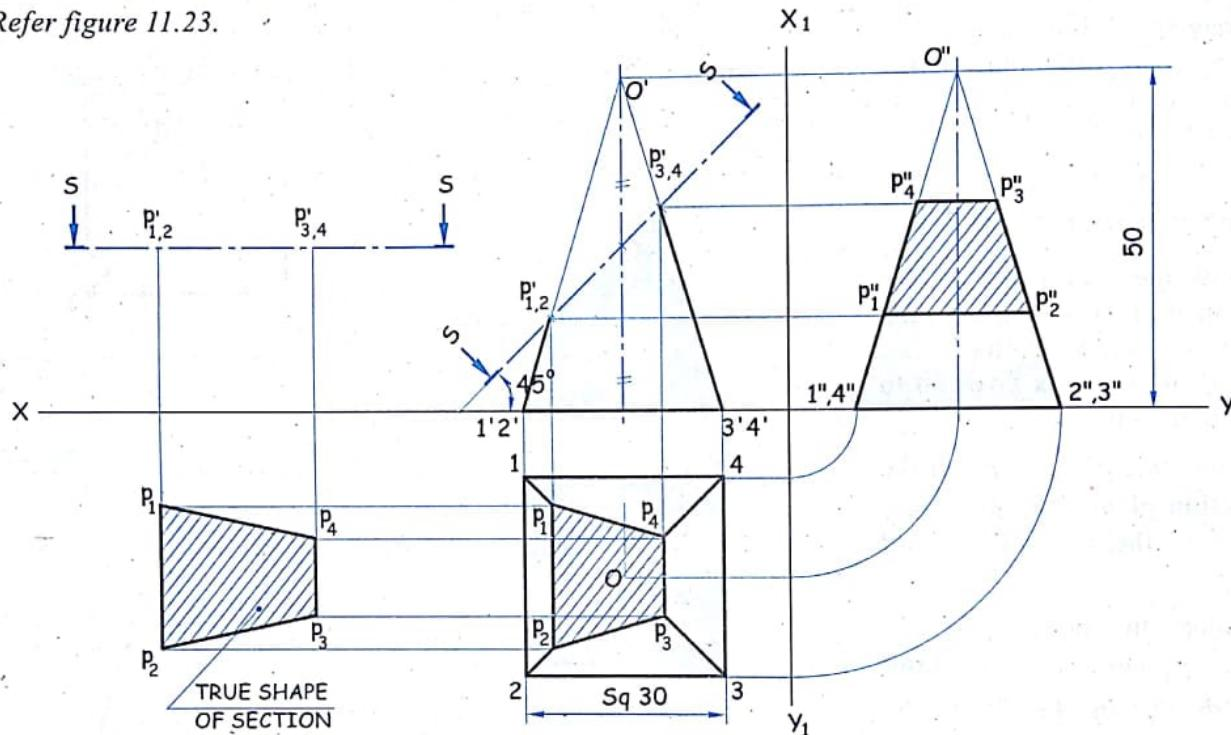

FIG.11.23
Refer figure 11.23.
- (i) Place the section plane S-S with points p'_1, p'_2, p'_3, p'_4 parallel to the XY line as shown in figure 11.23.